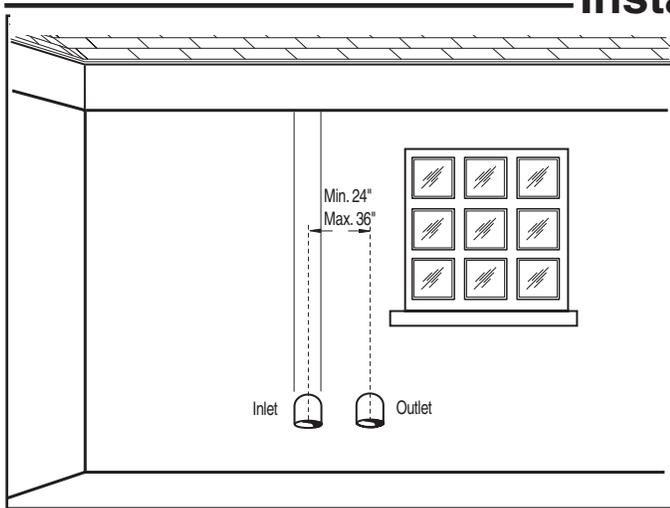

Figure 4
1. Cut two 2 1/2" (6.4 cm) diameter holes (for a 2" (5.1 cm) diameter pipe), 3 1/2 in. (8.9 cm) diameter holes (for 3" (7.6 cm) diameter pipe) or 4 1/2" (11.4 cm) diameter holes (for 4" (10.2 cm) diameter pipe) in the wall. Vent terminals must be a minimum of 24 inches (61 cm) and a maximum of 36 inches (91 cm) horizontally apart (See Figure 4).